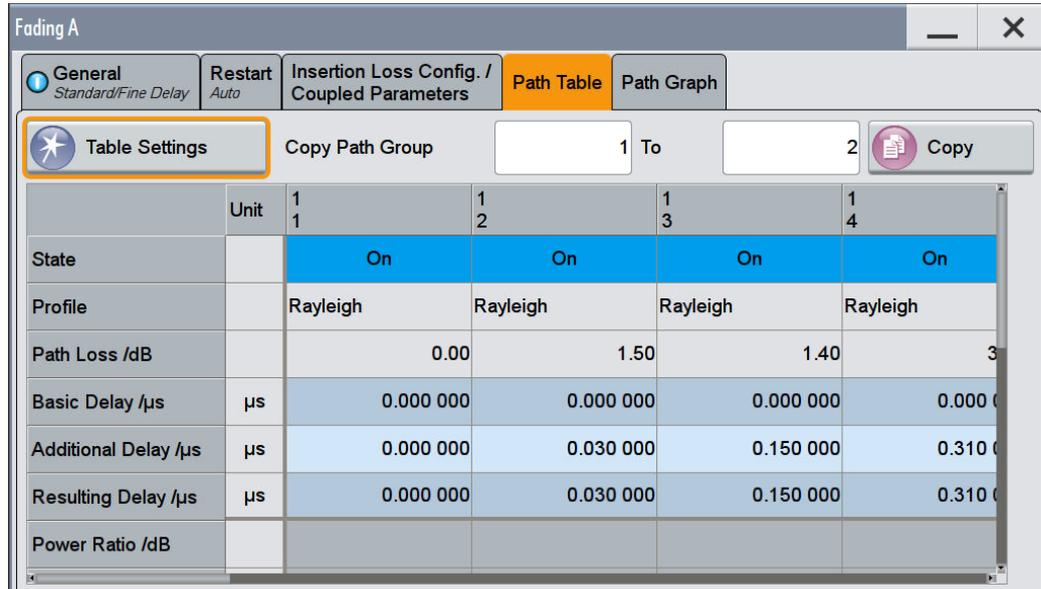
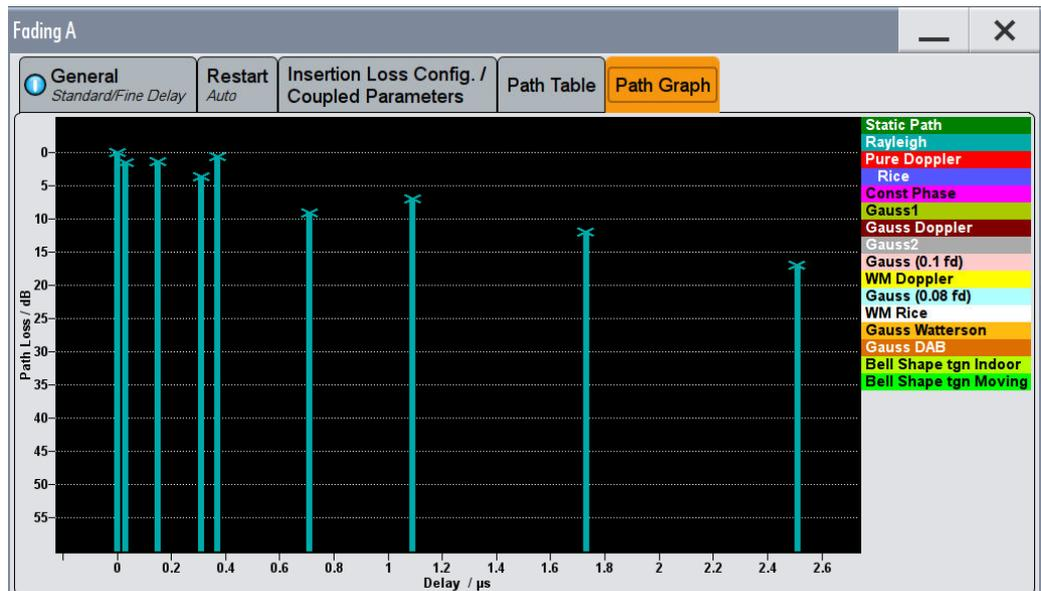

Fig. 3-17: Fading Path table
Fig. 3-18: Fading Path graph
5. The path settings are shown as a table and as graph. Individual settings can be handled in the tables. (Fig. 3-17 and Fig. 3-18)